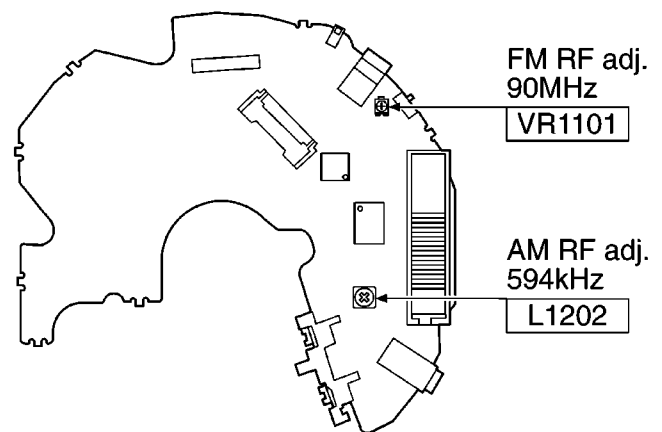

Fig. 18-3.
6. Adjust **VR1101** for maximum output. Refer to Fig. 18-3.
6. Adjust **L1202** for maximum output. Refer to Fig. 18-3.